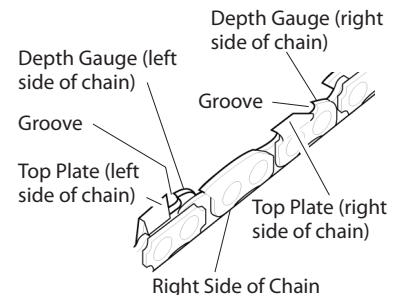

Figure 33 - Chain Part Locations
- Hold file guide level. Make sure 30° mark on file guide is parallel to center of guide bar (see Figure 33). This will insure that you file cutters at 30° angle.
- File from inside towards outside of cutter until sharp. Only file in this one direction (see Figure 33). *Note:* Two or three strokes with file should sharpen cutter.